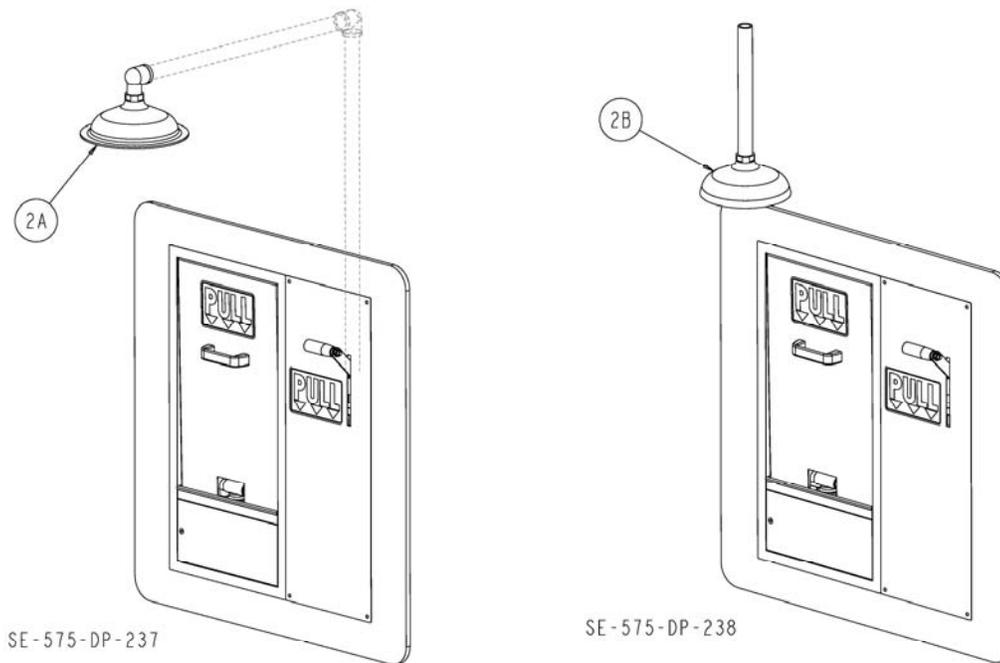

FIG. 3
5. Assemble shower head to supply piping accordingly. Drop down design for the SE-575-DP-238, and ceiling mount for the SE-575-DP-237. **Make note that ANSI specifies that showerhead must be 82"-96" from the surface on which the user stands.** Use pipe dope or thread sealant on all pipe thread connections. See shower head differences in Fig. 3.